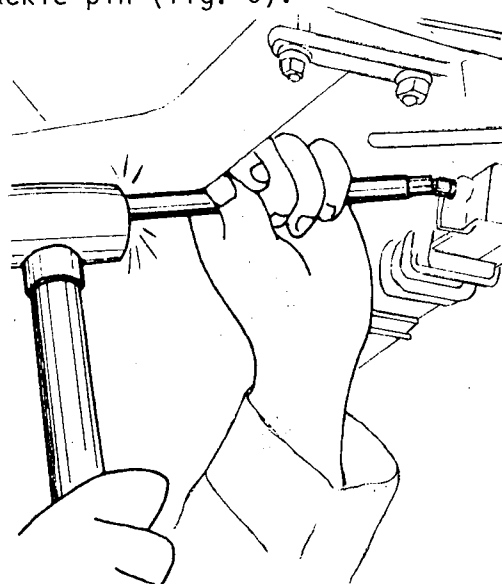

Fig. 5.
- g) Remove the nut and front shackle pin (fig. 5).